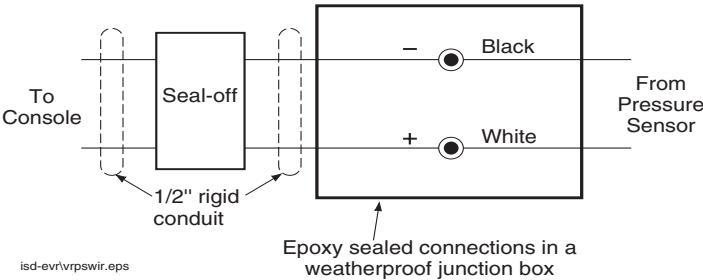

Figure 2. Field wiring Pressure Sensor - Observe Polarity
11. Route the cable from Pressure Sensor to the Pressure Sensor junction box in the dispenser. Observing polarity, connect the sensor wiring to the field wiring from console and cap with wire nuts (see Figure 2).